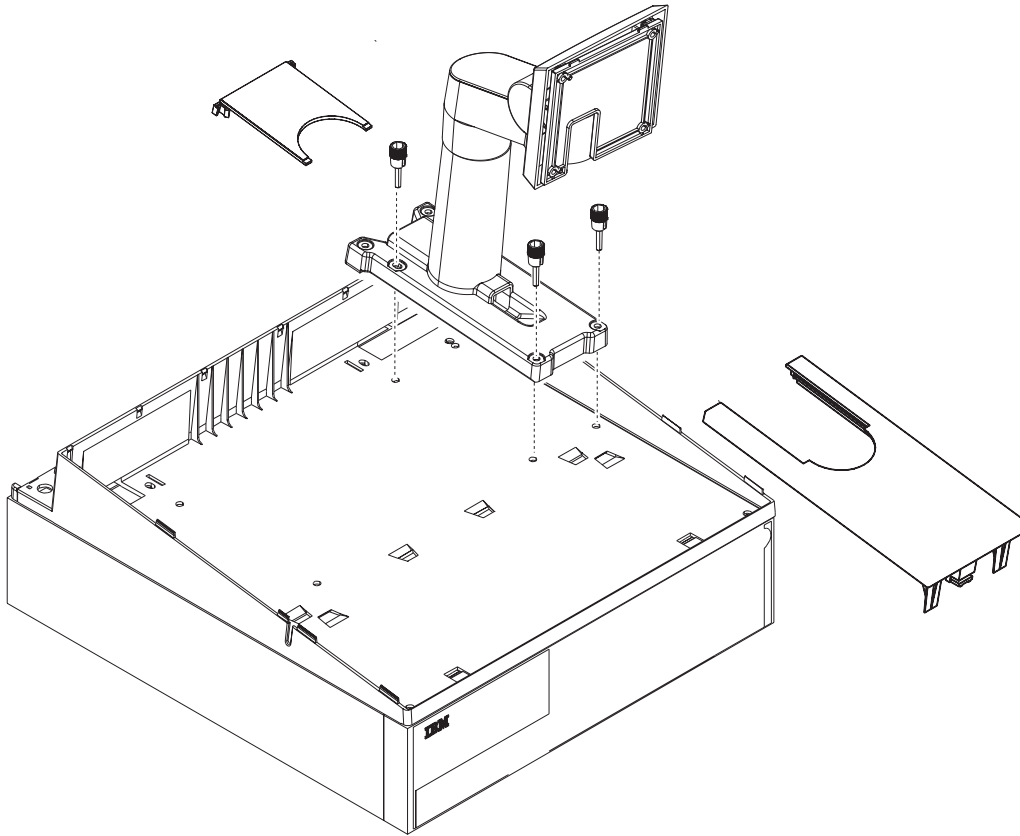

Figure 18. Securing the arm assembly to SurePOS 720, 740, 780.
3. Place the arm assembly on the slant tray as shown in Figure 18 on page 22. Insert and tighten the four thumbscrews as shown.